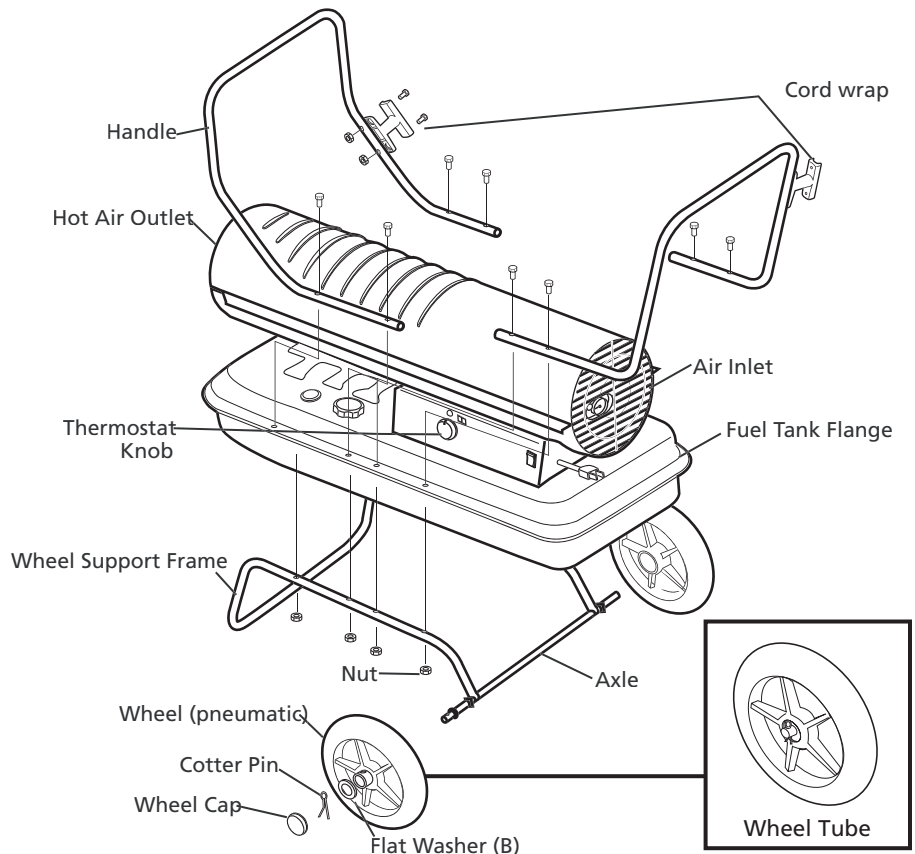

Figure 8 – Models 3VE50A, 3VE51A and 3VE52A Assembly
1. Slide axle through wheel support frame. Install wheels on axle, pointing extended hub of wheel toward wheel support frame (See Figure 8).
4. Position handle on top of fuel tank flange. Insert screws through handles, fuel tank flange and wheel support frames as shown in Figure 8, and attach nuts finger tight after each screw is inserted.